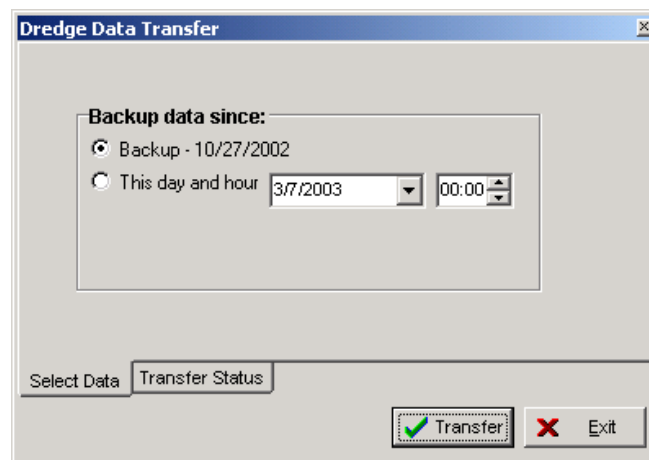

Figure 3.3 Data Transfer Date window.
5. Click **Copy Data To Zip**. The Dredge Data Transfer Window will now appear as in Figure 3.3.
1. Click ***Copy Data To Zip*** in the control center window. The Data Transfer Date window will now appear as shown in Figure 3.3.